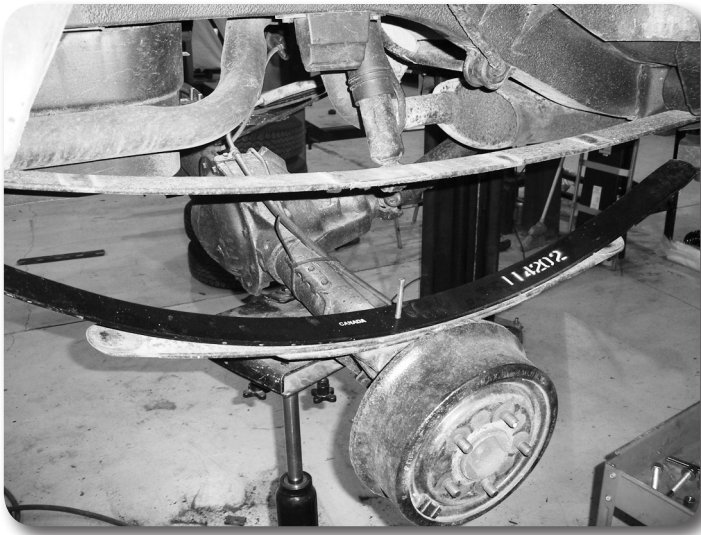

Figure 4
9. The leaf lengths get shorter as they go from the top leaf in a pyramid shape (Figure 4). Insert the supplied add-a-leaf in the appropriate position to form a pyramid shape. Using the C-clamps on each side of the center pin hole, compress the leafs together while aligning the new center pin through all of leaf center pin holes (from the bottom up). With the pack completely compressed together with the clamps, fasten the center pin with the provided nut. Torque nut to 20 ft-lbs. Cut off any access center pin. Do not use the center pin to compress the pack together.